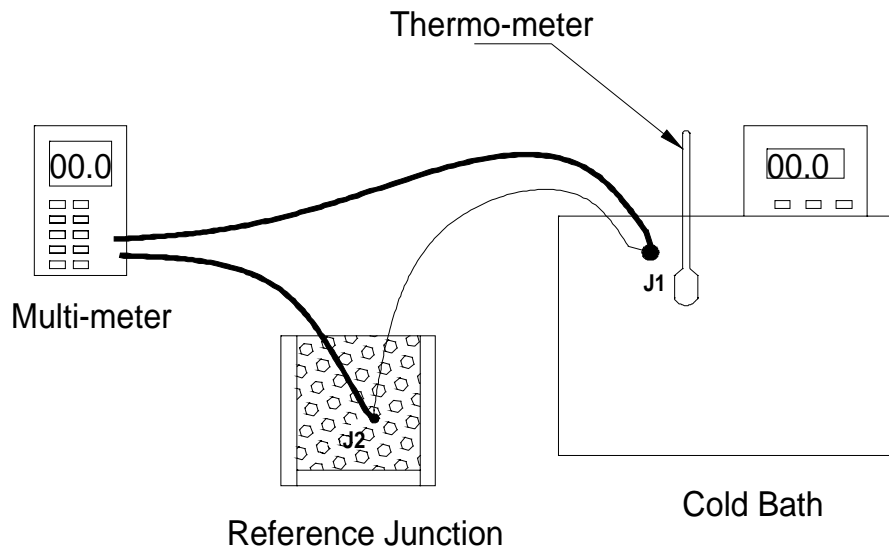

Figure 3 Set up for thermocouple calibration
- 3-Connect the other two ends of the thermocouple into a multi-meter as shown in figure 3 to measure the generated emf